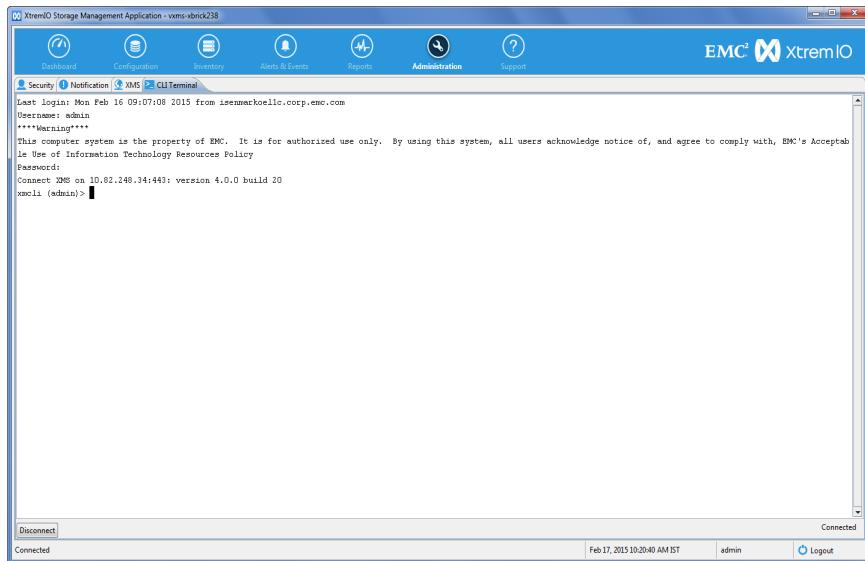

Figure 248 CLI Terminal Pane
2. From the left pane, select CLI Terminal; the CLI Terminal screen appears, as shown in Figure 248, allowing you to run CLI commands according to your user’s role.